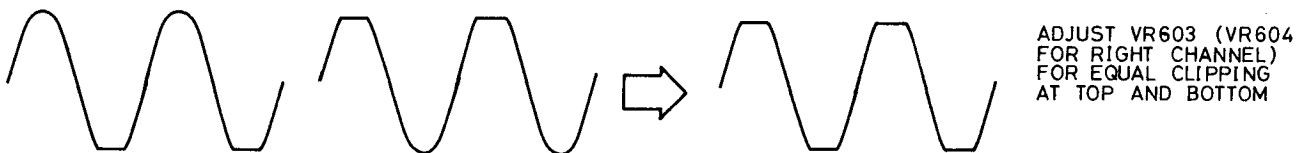
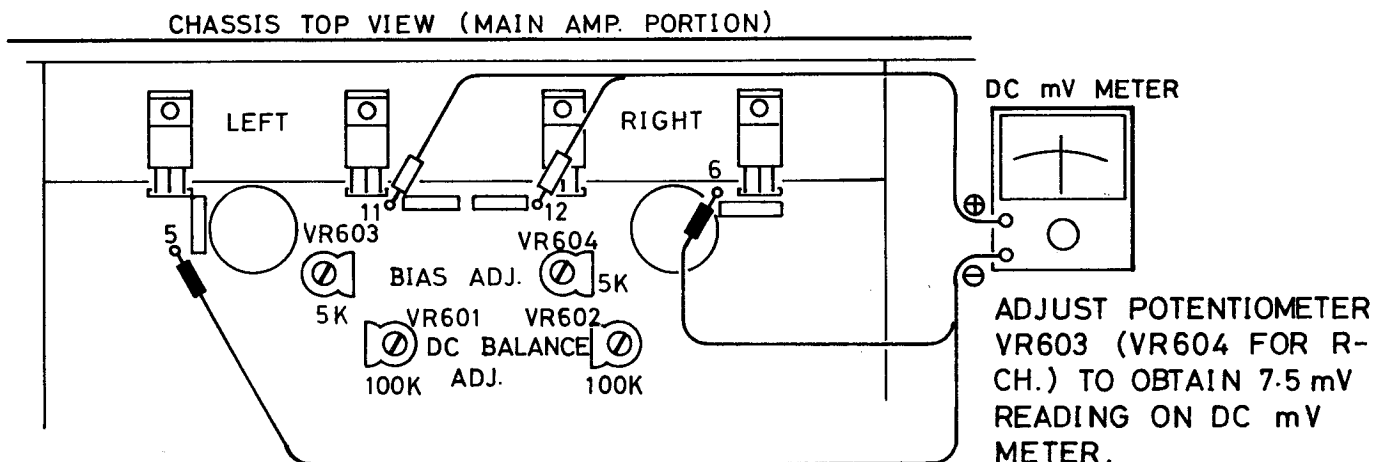

Figure 1. DC Balance Adjustment Waveforms
Figure 2. Bias (Idling Current) Adjustment Hook-up
4. Connect AC power cord and rotate Volume Control clockwise – full volume. Increase generator output until sine wave on scope just starts clipping. Adjust DC Balance Control VR601 (see Fig. 2) for equal clipping on the positive and negative half cycle of the signal. See Fig. 1.
2. Connect the plus lead of a DC milli-volt meter to pin No. 11 and the minus lead to pin No. 5 ... See Fig. 2.